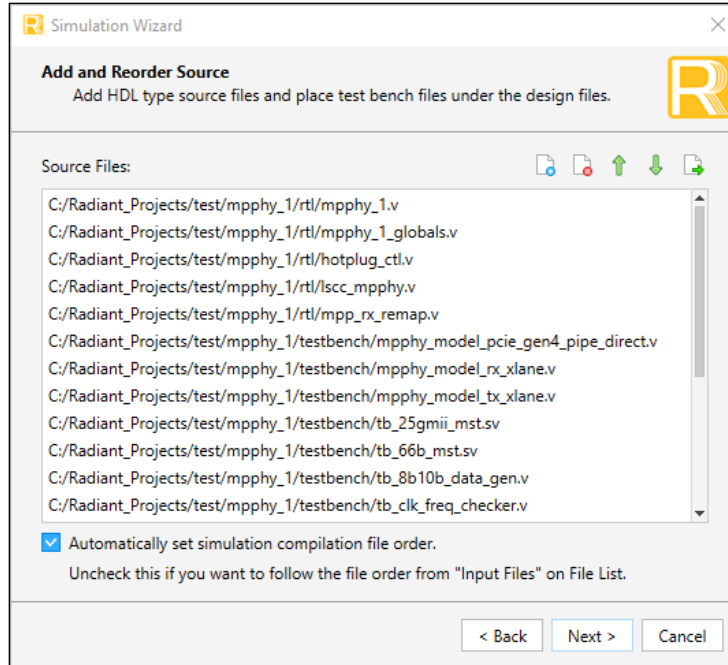

Figure 5.5. Adding and Reordering Source
2. Click **Next** to open the **Add and Reorder Source** window as shown in Figure 5.5.